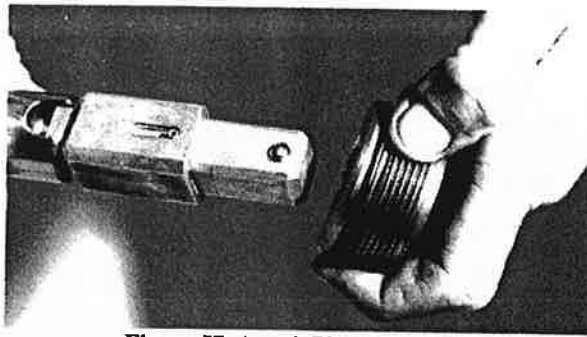

Figure 57. Attach Plug to Holder
- D. Attach plug to plug holder. See Figure 57. Retainer balls in holder must snap into groove in plug. Do not let plug holder bottom-out in plug.